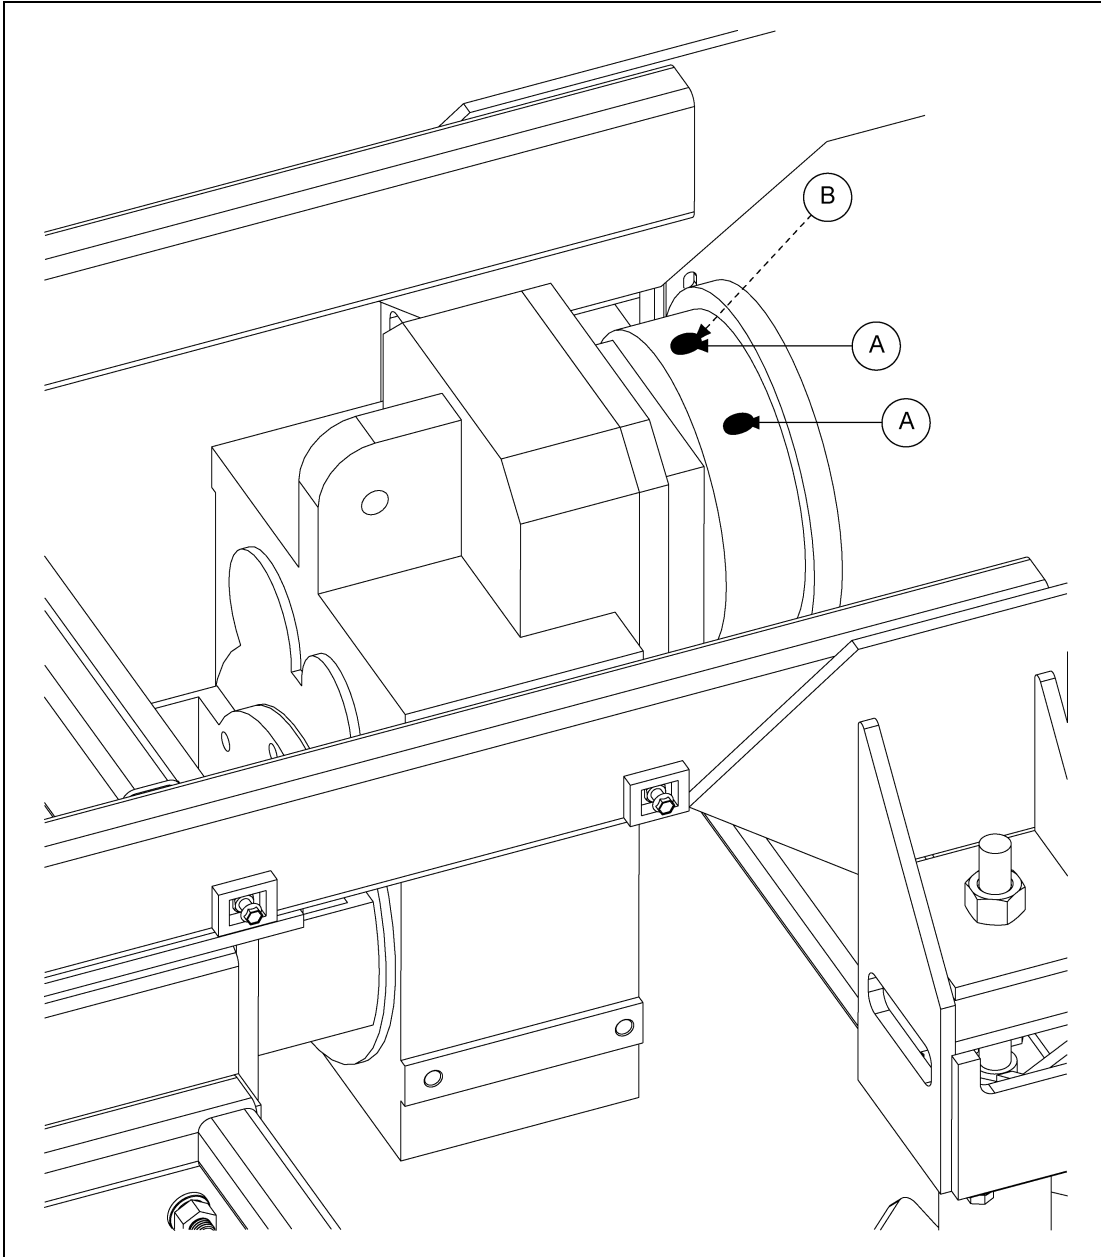

Figure 4AI
1. Remove set screw plugs (A) from gearbox, allowing access to set screws (B). (See Figure 4AI.)